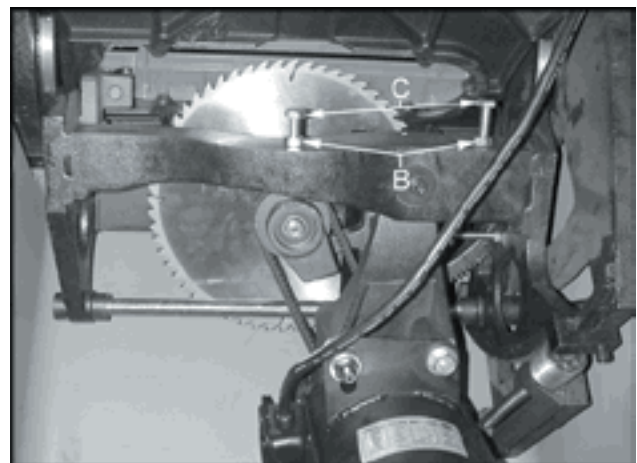

Figure 12
5. If blade is not 90° open the motor cover door, and loosen hex nuts (B, Figure 12).
6. Turn adjusting stop bolts (C, Figure 12) on the trunnion in, or out. The adjusting stop bolts should rest against the table when blade is 90° to the table.
7. Tighten the hex nuts (B, Figure 12) while holding the adjusting stop bolts (C, Figure 12) to keep them from moving.